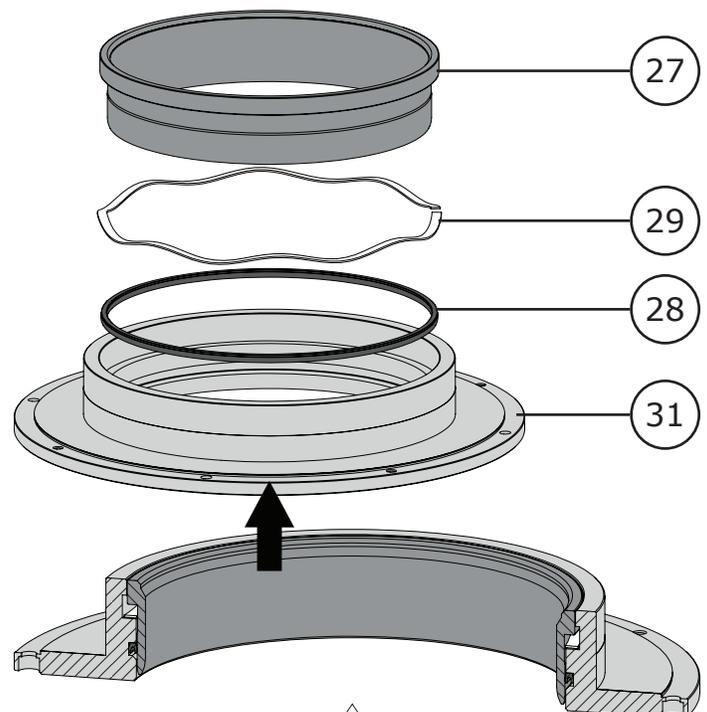

Figure 13 Metal Ball Seal Disassembly
- 1 Carefully separate the metal ball seal (Key 27) from the seal protector ring (Key 31). The metal ball seal will need to be removed from the back side of the protector ring, refer to Figure 13.